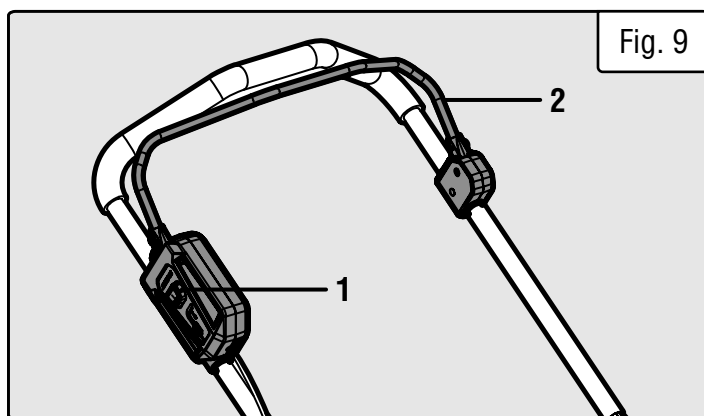

Fig. 9
2. Press and hold the power lock button (Fig. 9 - 1) on the end of the power trigger.
3. While pressing the power lock button, squeeze the power trigger (Fig. 9 - 2) to start the lawn mower. Release the power lock button once the mower starts up.